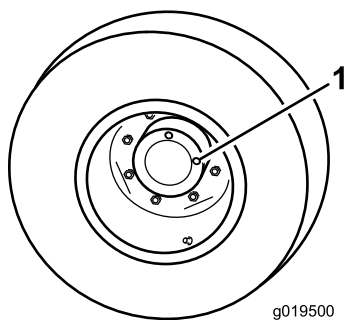

Figure 68
1. With the machine on a level surface, position the wheel so that one check plug (Figure 68) is at the 12 o'clock position and the other is at 3 o'clock position
1. Check plug (2)
2. Remove the plug at the 3 o'clock position (Figure 68). Oil level should be at the bottom of the check plug hole.